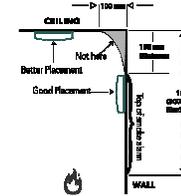

Figure 4: Recommended best and acceptable locations to mount Smoke Alarms.
- Install Smoke Alarms as close to the center of the ceiling as possible. If this is not practical, put the Smoke Alarm on the ceiling, no closer than 4 inches (10 cm) from any wall or corner, as shown in Figure 4.
- If ceiling mounting is not possible and wall mounting is permitted by your local and state codes, put wall-mounted Smoke Alarms between 4 and 6 inches (10 – 15 cm) from the ceiling, also see Figure 4.